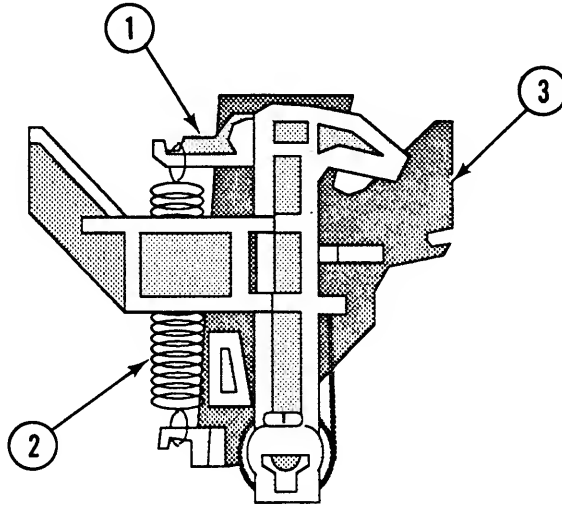

FIGURE 56
2. Remove the left lifter (Figure 56, #1) and tension spring (Figure 56, #2) from the left hook guide (Figure 56, #3).